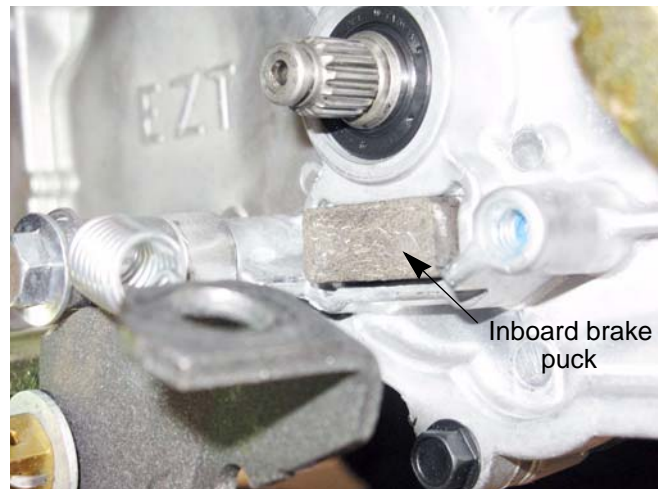

Figure 4.8
8. Slide the brake rotor off to reach the inboard brake puck. See Figure 4.8.